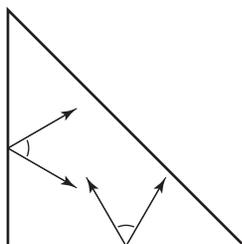

Figure 3: Two friction cones.
4. (a) For the friction cones in Figure 3, draw the moment-labeling represen-